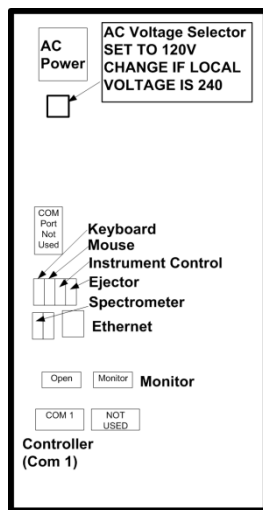
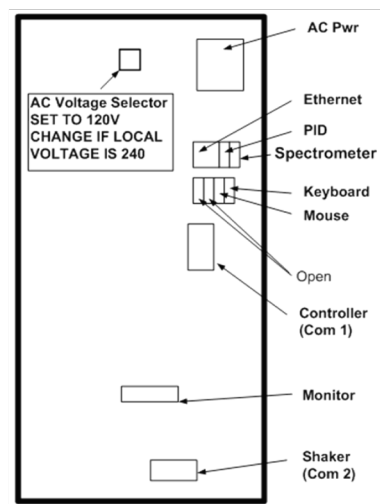

FIGURE 2.3 OCTET QK^e WORKSTATION CONNECTIONS
FIGURE 2.4 OCTET QK SYSTEM WORKSTATION CONNECTIONS
- 1.5. Connect the other ends of the communication cables to the workstation (Figure 2.3 for Octet QK^e or Figure 2.4 for Octet QK). Each cable is labeled with the port it should be plugged into.